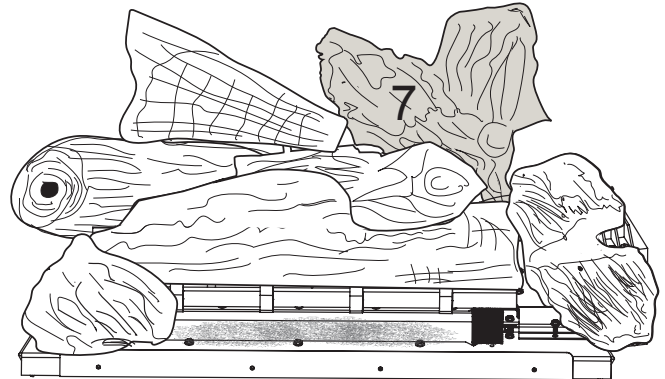

Figure 6.17 - Log #7 Placement
8. Hold log #7 with the flat end toward the back. Place log #7 by resting it behind log #2 and in front of the rear bend on the back, rotate clockwise to contact the back surface of log #7 to the metal bent upward on the burner assembly. The branch on log #7 should rest on log #5. See Figure 6.17.